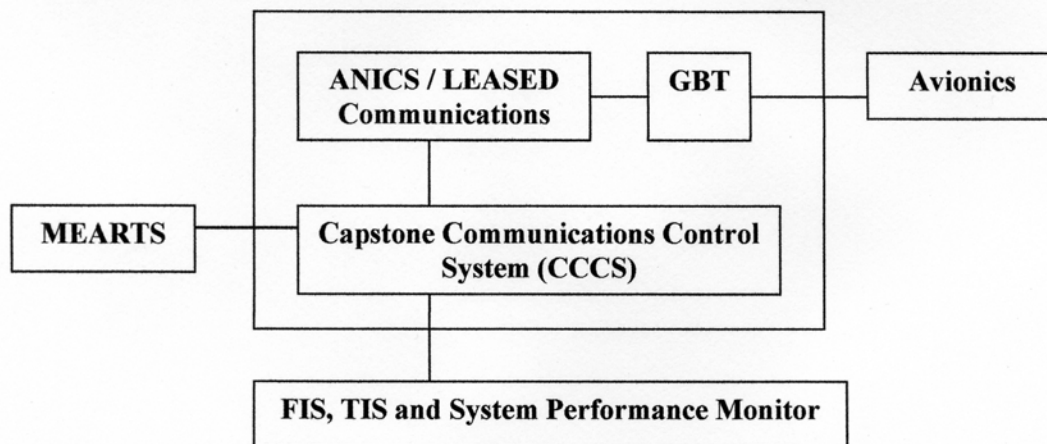

Figure 2-1 CAPSTONE BLOCK DIAGRAM
a. The GBT is the remote, ground-based component of the overall ADS-B system. The purpose of the GBT is to pass the air-to-ground ADS-B track data (down link path) via data lines to other facilities. Uplink services such as Flight Information Services – Broadcast (FIS-B) and Traffic Information Services - Broadcast (TIS-B) will be furnished when they are available and provided to the GBT. The GBT can be configured to operate as a Fixed ADS-B Beacon (FAB), commonly referred to as a Permanent Echo (PE) or “parrot”. Figure 2-1 shows how the GBT fits into the overall data link system. The complete remote GBT